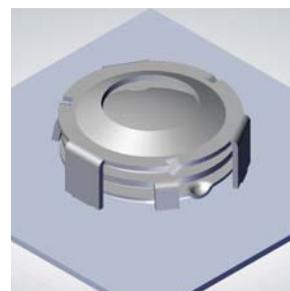

Fig. 6: Double Disk Float Valve
**Double disk valves** (see Fig. 6) have two valve plates in their cage. The upper plate (called "ballast plate") has three small legs for static lift. The lower plate is called "orifice cover" and closes the deck hole.